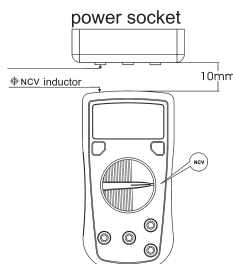

figure 9
I. NCV Function (UT136D only, see figure 9)